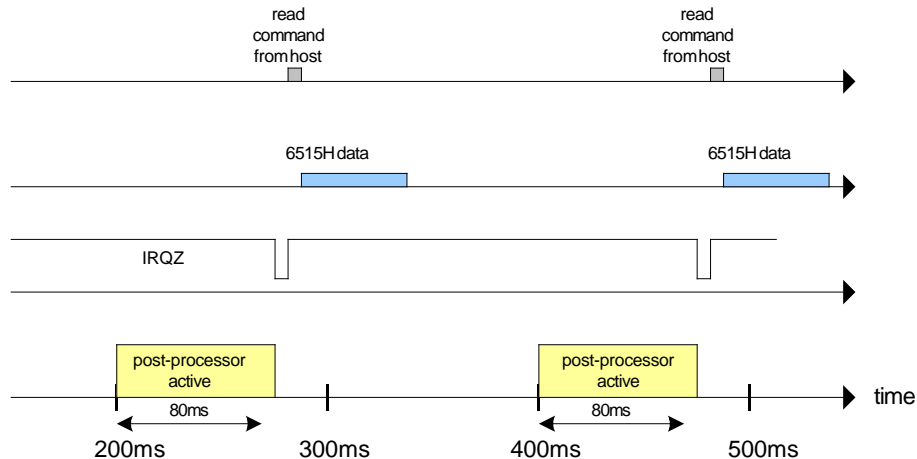

Figure 19: Timing Diagram (Using IRQZ, *SUM_CYCLES* = 12)
The four-wire three-phase delta configuration is shown in Figure 19. In this case, the center tap of the transformer that provides the A-C voltage is grounded. the grounded wire is connected to V3P3A. For this configuration, equation 2 must be selected. For this configuration, equation 3 must be selected, i.e. $P = V_A \cdot (I_A - I_B) / 2 + V_C \cdot I_C$.
- 1) Synchronization using the IRQZ pin of the 71M6515H (interrupt or DIO pin polling method, see Figure 19):